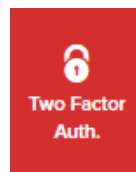

Figure 11. Partner Portal (Two Factor Auth. icon)
4. Click the **Two Factor Auth.** link on the left-hand side of the web page (Figure 11 \(page 40\)).